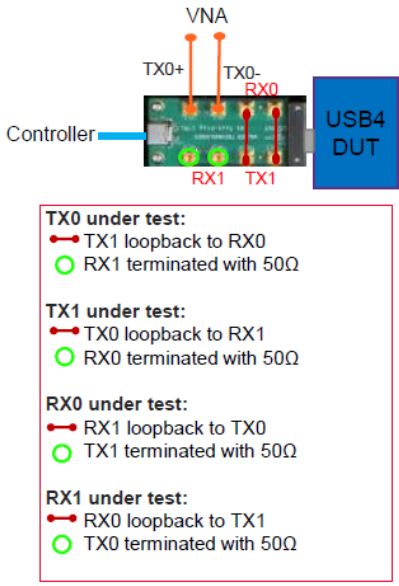

Figure 122 SMP test fixture - Tx/Rx lane switching
- 8 In case of SMP test fixture, Tx/Rx lane under test can be switched as shown in Figure 122.